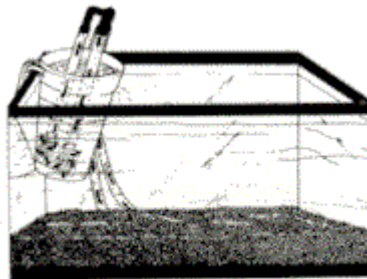

FIG. 16
3. Lift the container with the two tubes inside high enough to allow you to hook the container's handle over the lip of the aquarium. (Fig. 16) Care should be taken not to allow the intake tube to suck air during this operation.